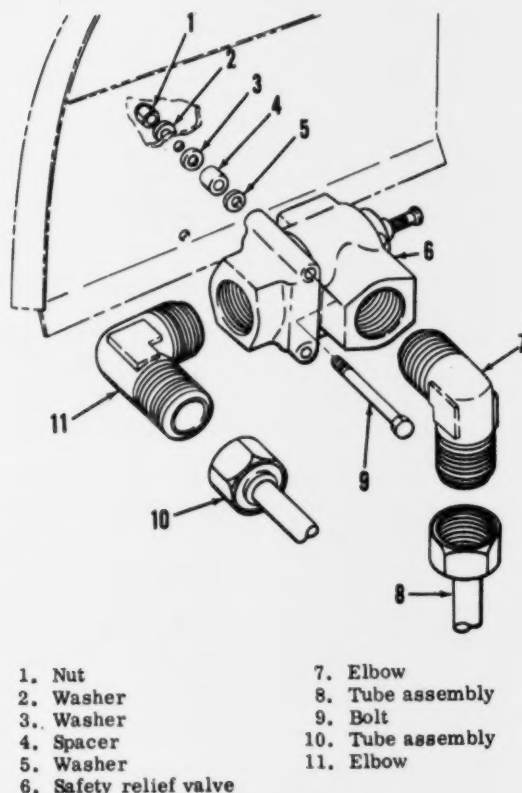

Figure 11-19. Safety relief valve installation
11-86. SAFETY RELIEF VALVES. The safety relief valves (figure 11-19) are located on the upper forward side of each engine firewall. They have been preset by the manufacturer to automatically release the deicing system operating pressure whenever 17 psi is exceeded. Do not tamper with or attempt to reset the safety relief valve in any way while it is mounted on the aircraft.
(2) Disconnect tube assemblies (8 and 10, figure 11-19) from safety relief valve (6).
(3) Remove nuts (1) and washers (2) on aft side of firewall.
(4) Remove bolts (9), washers (3 and 5), and spacers (4).
(5) Remove safety relief valve (6) from aircraft.
(6) Remove elbows (7 and 11) from safety relief valve (6).
b. Cleaning. (1) Clean safety relief valve (6) with dry cleaning solvent (item 6, table 1-8).
c. Inspection. (1) Inspect valve for cracks and corrosion.
(2) Inspect valve ports for damaged threads.
d. Installation. (1) Remove caps and connect elbows (7 and 11, figure 11-19) to safety relief valve (6).
(2) Position safety relief valve against forward side of firewall and secure with bolts (9), washers (2, 3, and 5), spacers (4), and nuts (1).
(3) Remove caps and connect tube assemblies (8 and 10) to elbows (7 and 11).
(4) Close engine cowling doors.